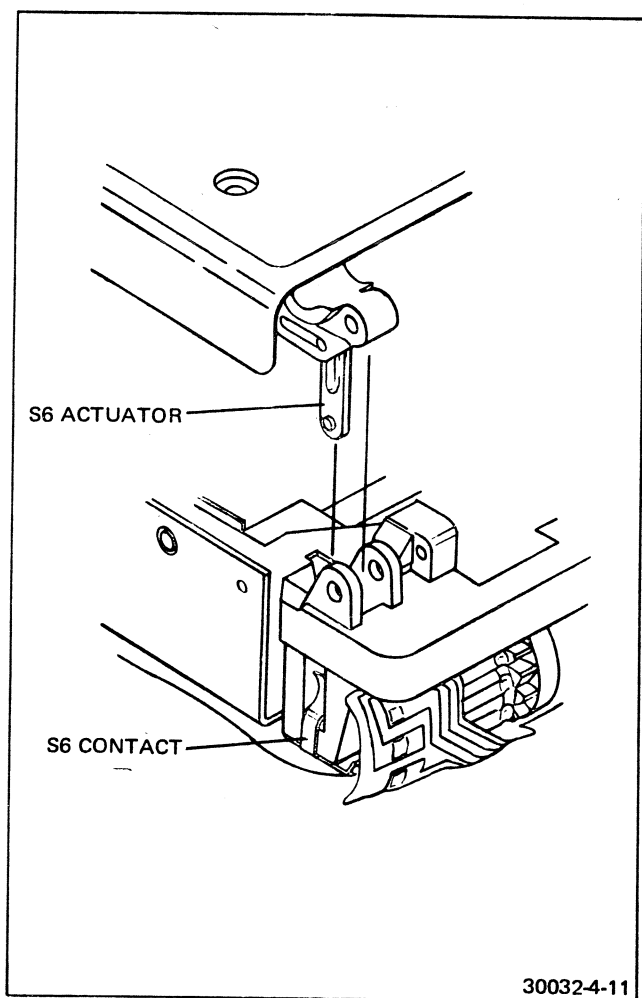

FIGURE 4-11 LOCATION OF S6 ACTUATOR LINK
3. Lower the housing so that the free-hanging actuator passes through the cutout in the inner-frame assembly toward the S6 contacts (see Figure 4-11).